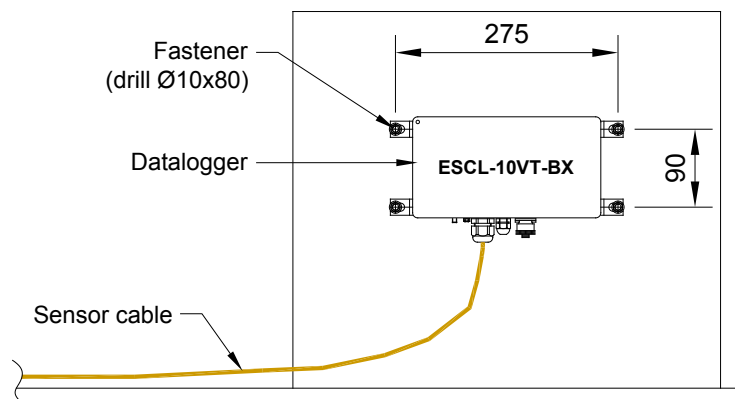

Figure 9-11: Mounting details of ESCL-10VT-BX datalogger
9.6.22 Alternatively, the datalogger can be mounted in custom made enclosure provided by client/user. Refer to figure 9-11.